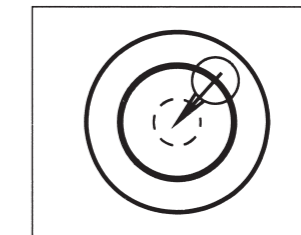

Fig. 3
2. If the unit is placed in a slanting position, it will not emit any laser lines at all. Adjust the level adjusting ring so that the air-bubble in the round vial is centered. (See the Fig. 3)